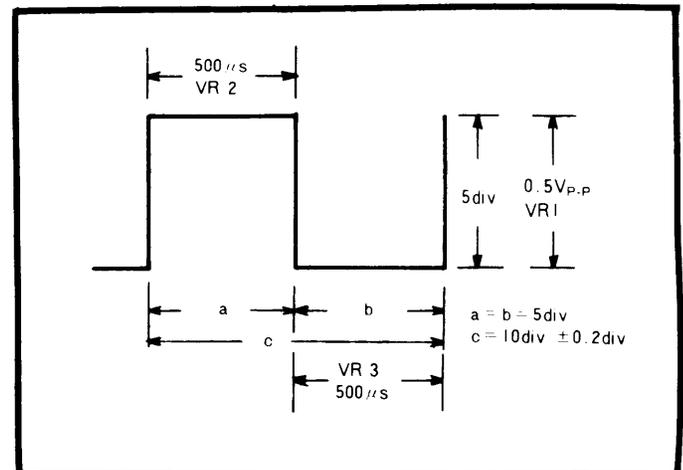

Fig. 27. CAL Square Wave Adjustment.
4. Adjust VR2 for 0.5 ms time period for the positive half of the square wave (5 divisions at 0.1 ms/div sweep time). Adjust VR3 for 0.5 ms time period for the negative half of the square wave. See Fig. 27.